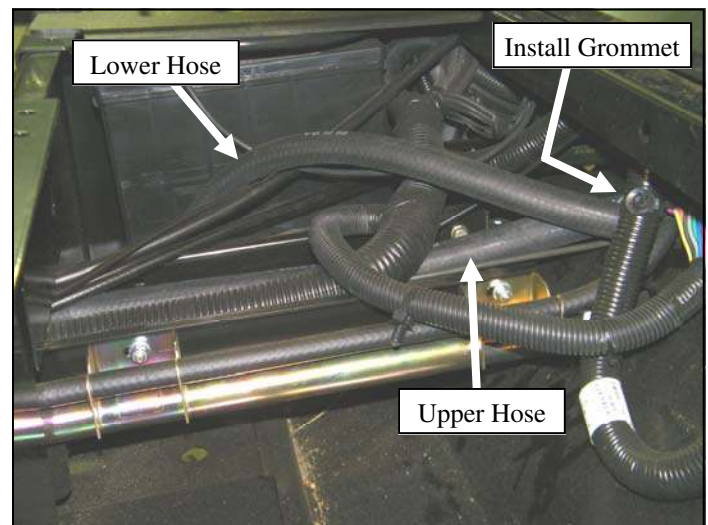

FIGURE 5.15
5.15 Once under the rear seat, route the lower hose up around the vehicle coolant hose as shown in Figure 5.15. Be sure to avoid the drive shaft.
5.16 Install a rubber grommet into the oval hole in the steel panel under the rear seat as shown in Figure 5.15.